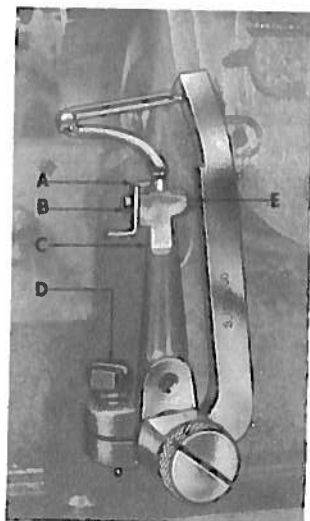
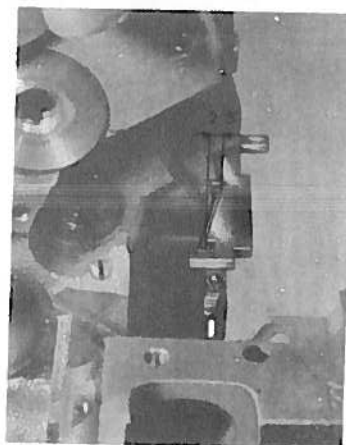

fig. 4
fig. 5
- S. 1552.00 for all operations except operation n.4 (fig.4).
- S. 1555.00 for operation n. 4 (fig.4).
4) SETTING PRIMARY LOOPER (fig. 4)
- mount looper height gauge n. S. 1555.000 on the primary looper shaft with special screw supplied with gauge as shown in fig. 4.
- Slightly tighten screw E (fig. 4)
- Rest timing gauge n. S. 1552.00 (fig.5) on the milled surface of the base and adjust looper lever C (fig. 4) forward or backward on primary looper lever C until the correct angle of the looper is obtained on timing gauge n. S. 1552.00 (fig. 5).